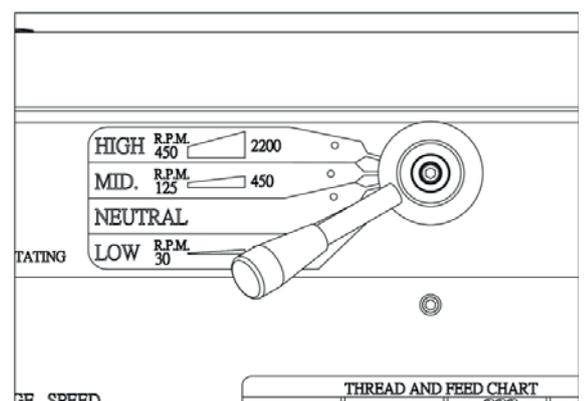

Fig. 16 Headstock range lever
6. Move the headstock range lever (figure 16) to the bottom so the headstock is in low range (30-125 rpm).